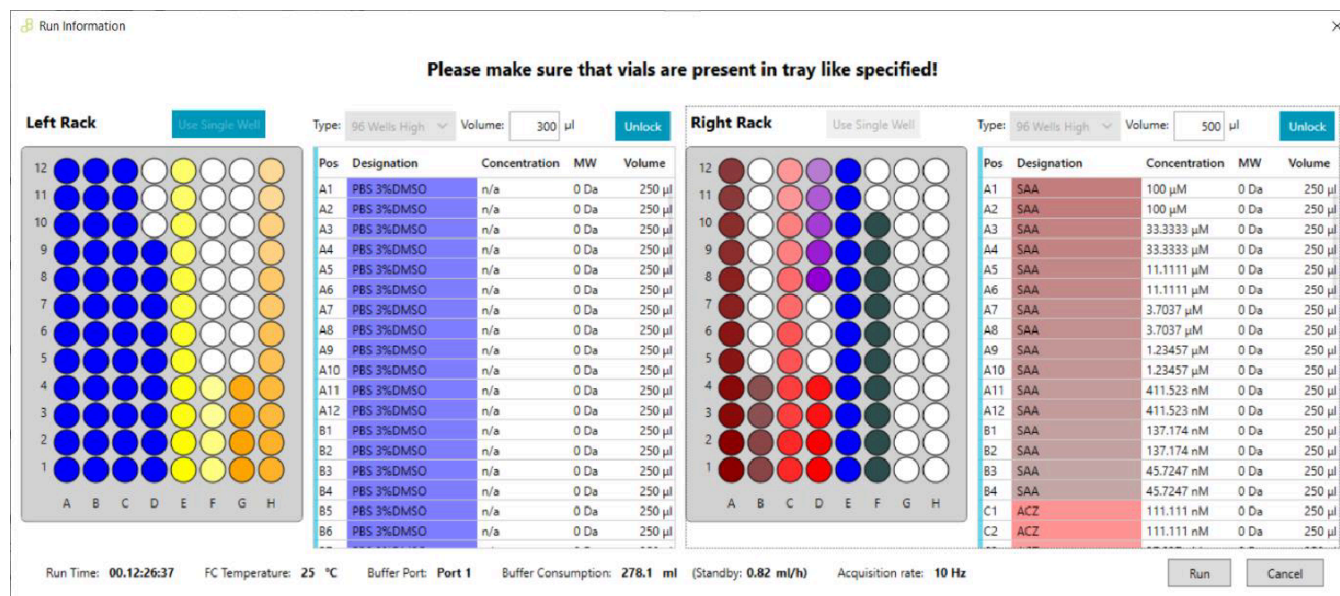

Figure 6. Run window.
- To run a wizard, select the desired the wizard and follow the instructions, inserting the pertinent information. Click on create series. Once the series are created, hit Series>Run in order to run a method (Figure 6).